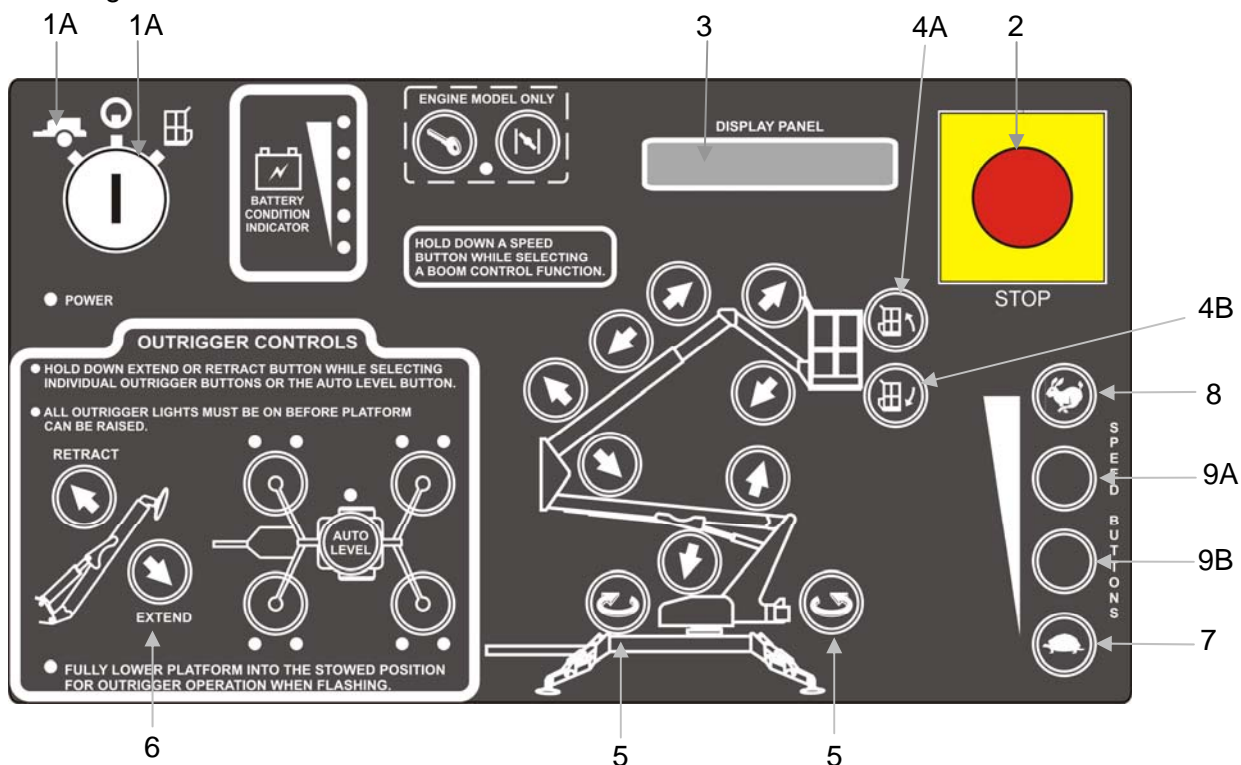

Figure 4-14. Ground (Lower) Control Panel for Overload Protection
- 2) Use the ground (lower) control panel to access the control box maintenance menu. Refer to Figure 4-14